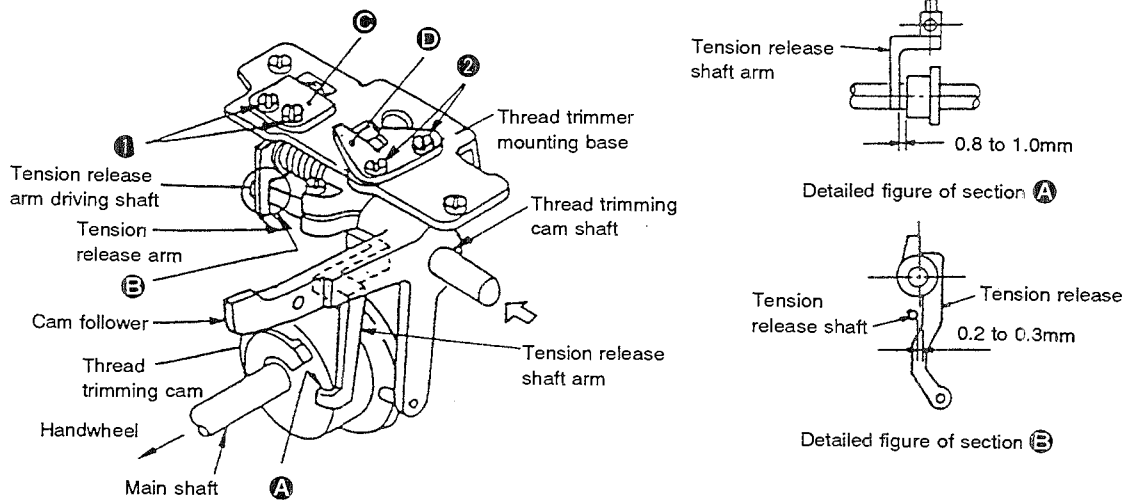

Fig. 5-16-1
After making the adjustment, push the thread trimming cam shaft in the direction of the arrow → (Fig. 5-16-1) until it is engaged with thread trimming clutch mechanism, and turn the handwheel by hand in the normal direction of rotation. At this time, make sure that the tension release shaft arm comes off tension release notch **A**, and the tension disk of tension controller No. 2 closes upon returning of the cam follower to the end face of the arm.
(19) Amount of release of the tension disks
Pressing the thread trimming cam shaft in the direction of the arrow (→), turn the handwheel by hand in the normal direction of rotation until the tension release shaft arm rests on stepped portion ④ of the tension release notch. Now, the rising amount of the tension disk of the tension controller No. 2 should be 0.6 to 0.8 mm for S or H type model of sewing machine or 0.8 to 1.0 mm for G type. (Fig. 5-16-1, Fig. 5-19-1, Fig. 5-19-2)
<ul style="list-style-type: none"> ○ Loosen thread tension arm setscrew ①, and adjust the amount of release of the tension disks by moving thread tension arm ② referring to the "STANDARD ADJUSTMENTS (19)." <p>[Caution]</p> <ul style="list-style-type: none"> ○ After making the adjustment, turn the handwheel by hand to check that the thread tension disks keep opening until the thread take-up reaches its highest dead point and the disks are completely closed. (The tension disks open at the highest dead point.) ○ If the tension disks close at the time of needle threading or actuating the machine, be sure to open the disks by sewing the desired pattern to actuate the thread trimming, or by pressing the thread trimming cam shaft in the direction of the arrow (Fig. 5-16-1) to turn the handwheel in the normal direction of rotation and start the thread trimming clutch mechanism working so that the main shaft is brought to the upper resting position. 	<ul style="list-style-type: none"> ○ The length of thread remaining on the needle after thread trimming will be too short and inconsistent. ○ A loose stitch formation may result.